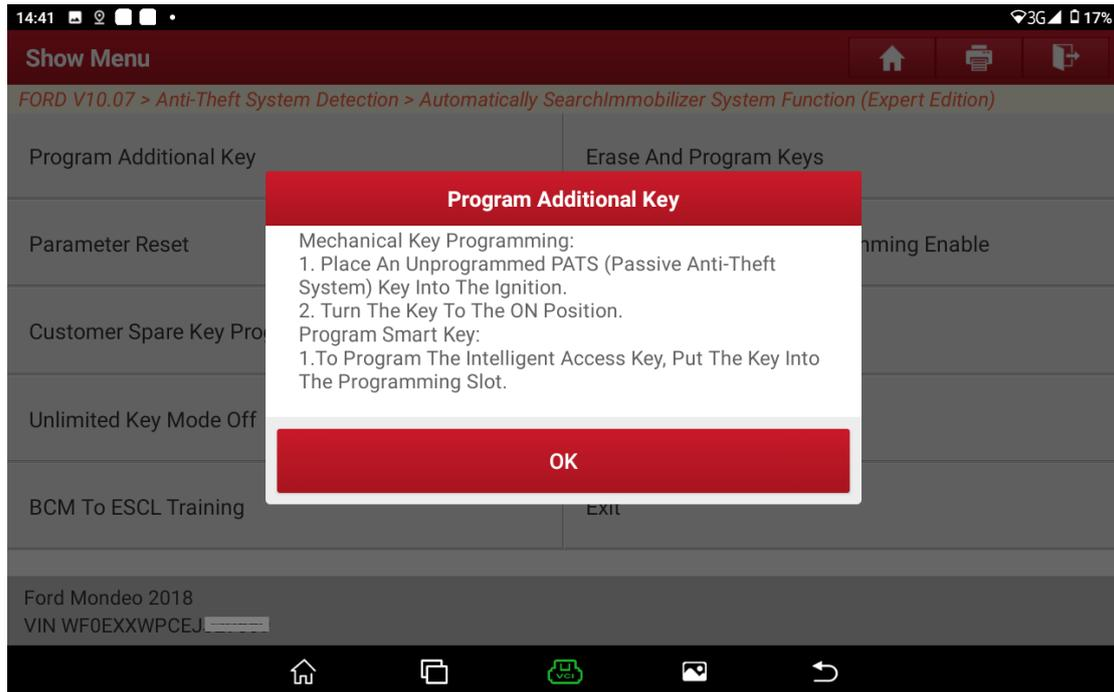

Figure A12
10. Prompt the precautions for adding keys and the corresponding operations. See Figure A12.